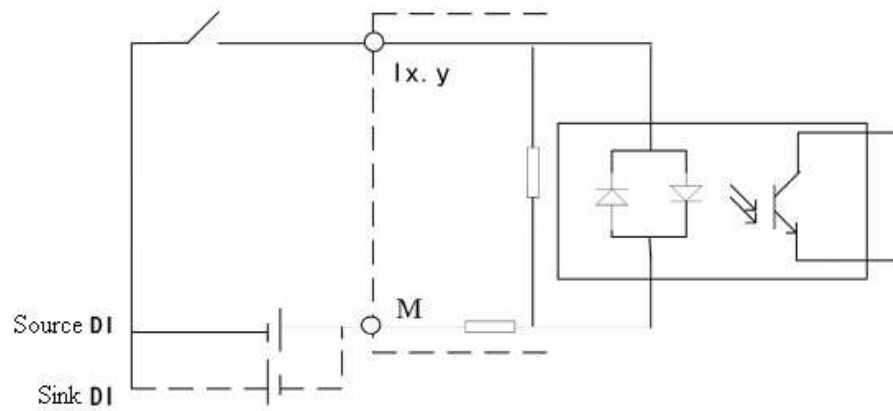

Figure 2.2.3 LM3104 Input Channel Equivalent Circuit
◇ Input channel (DI) equivalent circuit shown in Figure 2.2.3.